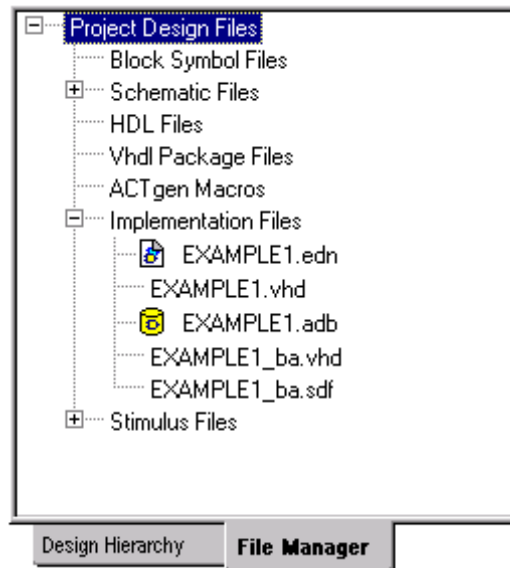

Figure 19 - Designer files in the Libero IDE File Manager tab
7. **Save and Close Designer.** From the File menu, click *Exit*. Select Yes to save the design before closing Designer. Designer saves all of the design information in a *.adb file. The file example1.adb appears under the Implementation Files of the File Manager tab in Libero IDE (Figure 19). You can re-open this file with by right clicking and selecting **Open in Designer** to launch the Designer application.